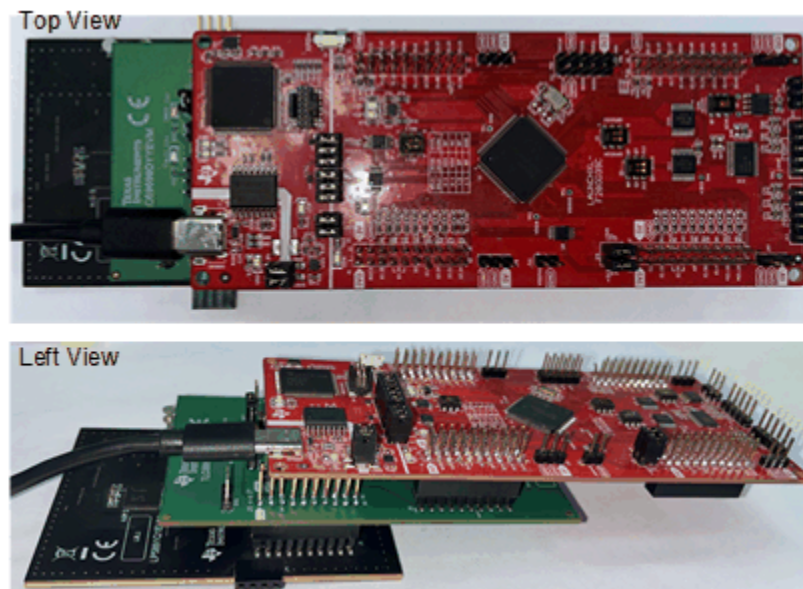

Figure 2-4. LAUNCHXL-F280039C and LP5899EVM Connection
4. Connect BoosterPack connectors (J1, J2, J3, J4) on the LAUNCHXL-F280039C with the BoosterPack connectors (J3, J4) on the LP5899EVM as shown in the Figure 2-4.